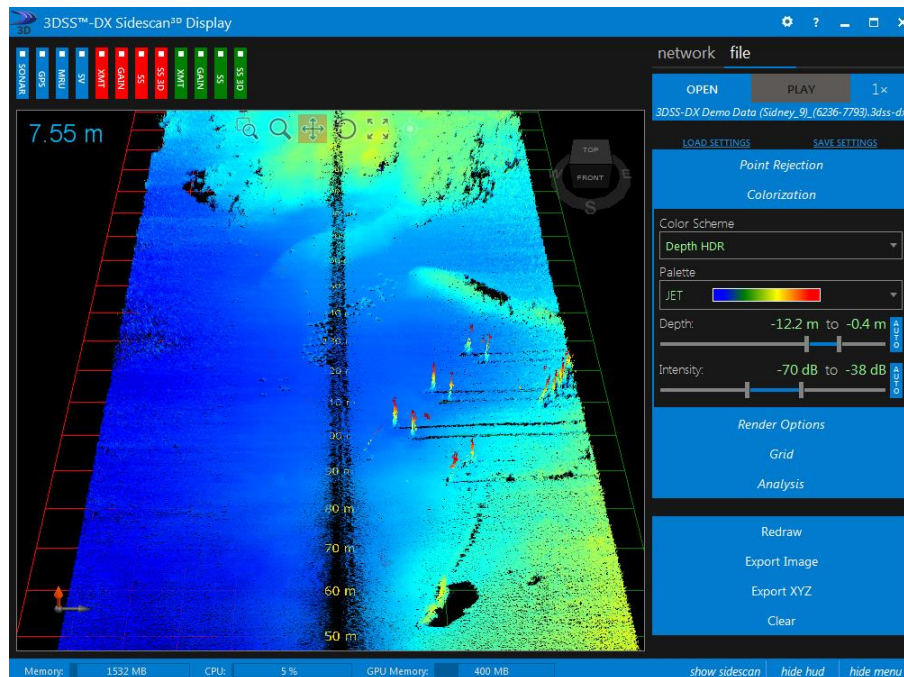

FIGURE 64. 3D SIDESCAN COLORIZATION SETTINGS, 3D BATHYMETRY EXAMPLE.
1. 3D Bathymetry as shown in Figure 64 : Data is colorized by depth with the following variations: